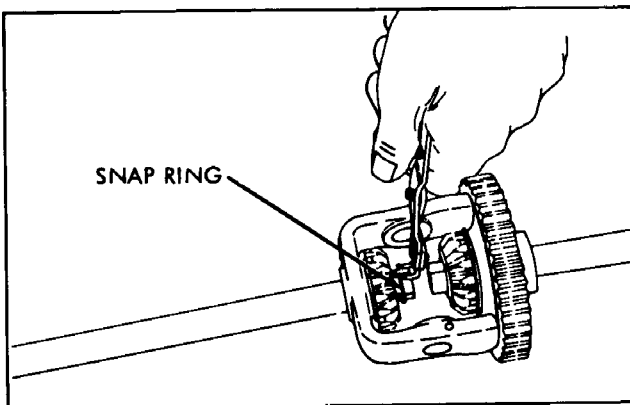

Figure 36
- (d) Remove snap ring, bevel gear and thrust washer. Slide axle out. See Figure 36.